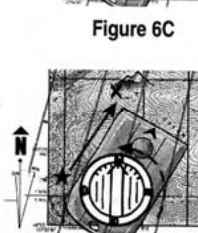

Figure 6C
- Turn the Dial so the Orienting Arrow and Lines are aligned with the Magnetic Meridians on the map. Make sure the Red "N" is pointed to North on the map. The magnetic bearing to your destination can be read at the Index Line on the Dial. (Figure 6C)